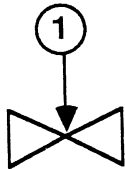

FIGURE 9
2. Locate the two jumper pads marked SC (Figure 8, #1). Using the X-acto knife, separate the two jumper pads, one pair at a time, by applying even pressure to the location indicated in Figure 9, #1.